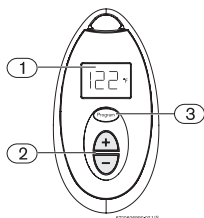

Fig. 9 Memorizing water temperature
- ▶ Press the buttons  or  on the remote control (Fig. 9, pos. 2), until the required temperature appears on the remote control display (Fig. 9, pos. 1).
- ▶ You will now be able to memorize this temperature by pressing the "Program" button on the remote control (Fig. 9, pos. 3) for 3 seconds.